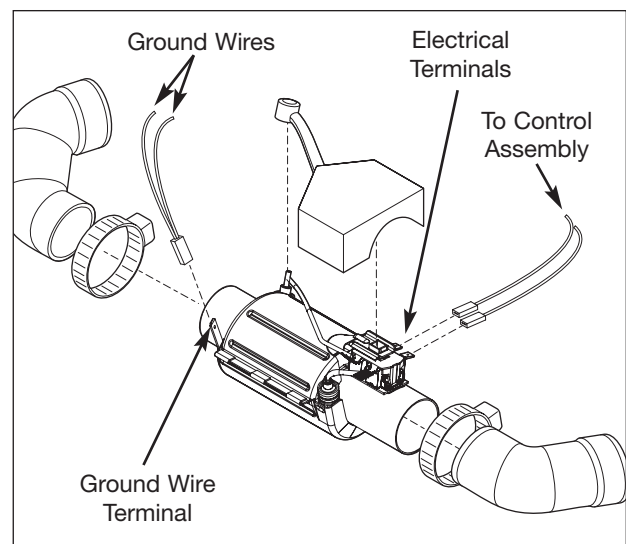

Figure 5-37. Inline Heater Assembly Removal
3. Disconnect the electrical leads from the inline heater terminals and the ground wire from the terminal on the inline heater housing. (See Figure 5-37)